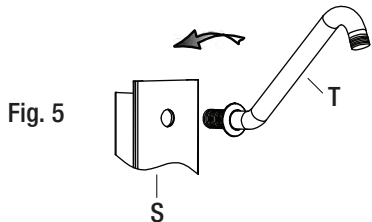

Fig. 5
- Insert the shower arm (T) into the shower column (S) and secure it with the nut (R), see Fig. 5 & 6.